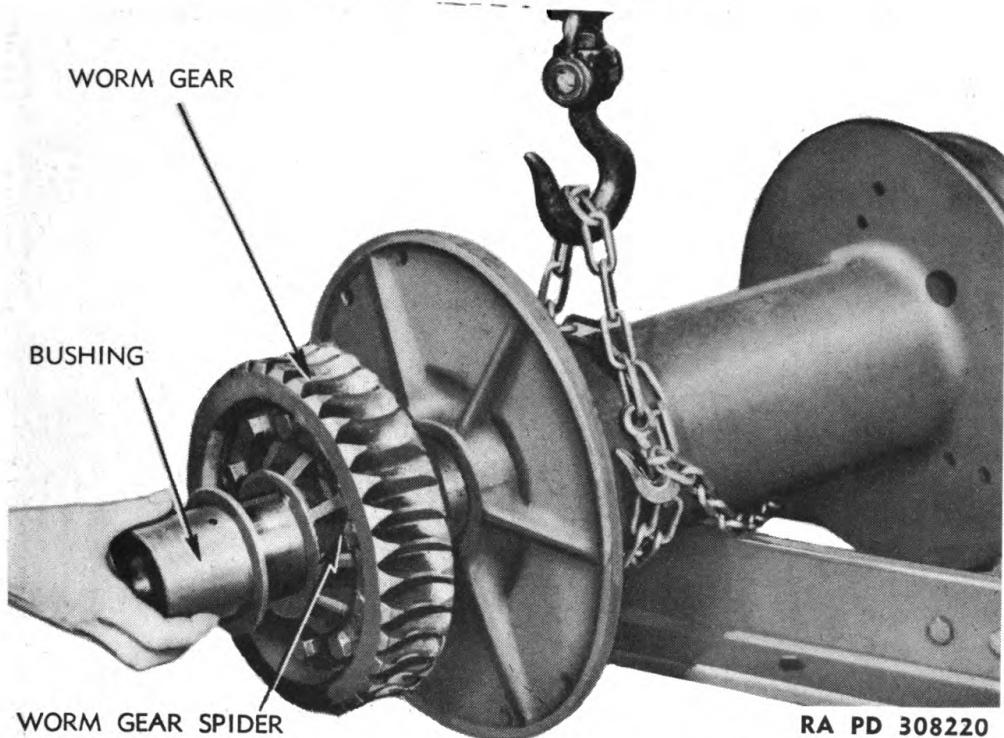

Figure 118 — Removing Outer Drum Shaft Bushing
(3) Remove cap screw and retaining washer from gear end of drum shaft, then slide outer drum shaft bushing off shaft (fig. 118). Slide shaft, with worm gear attached, out of drum. Slide inner drum shaft bushing off shaft.
(4) Remove nuts from the 10 bolts holding worm gear to worm gear spider. Tap bolts back with soft hammer till ends are flush with spider, then, using brass punch and hammer, drive them on out. Use care not to damage threads. Tap gear off spider with soft hammer, then place shaft in press and press shaft out of spider.
(5) Slip a drum shaft bushing on shaft at each side of worm gear with flanges towards gear (fig. 118). Insert shaft through drum from end of drum opposite cable clamp. Slip inner thrust ring onto clutch end of shaft with notches facing end of shaft. Make sure there are no burs on keys or in slots in shaft, then tap two keys into slots in shaft (fig. 117).